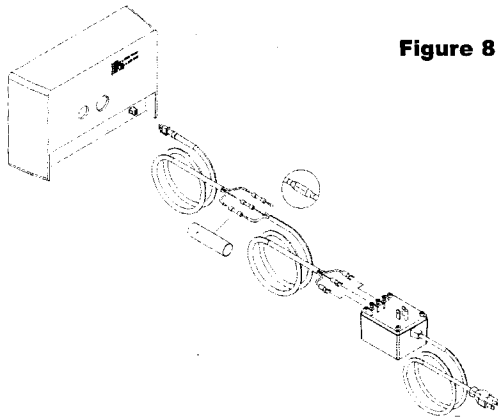

Figure 8
- Connect the wire to the transformer (see figure 8).
- Insert the other end of the wire, with the connector, into the back of the control box (see figure 8).